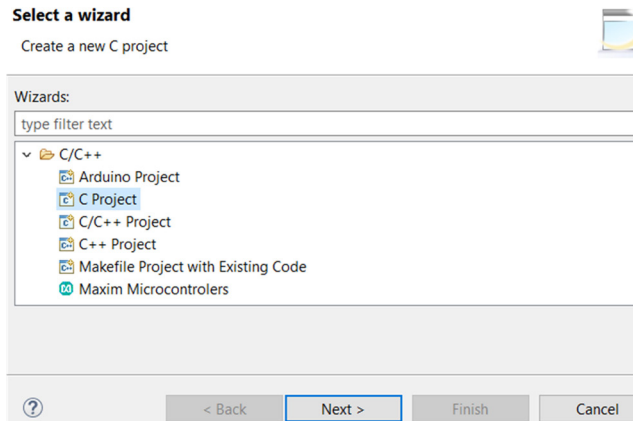

Figure 3.19 Click C Project
- Click to expand **C/C++** and then press **C Project** (Figure 3.19). Click **Next** to continue